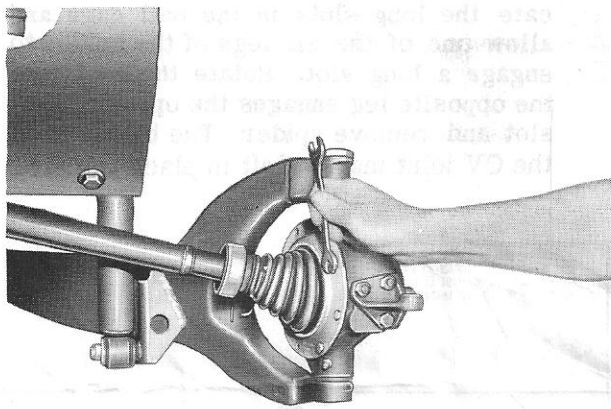

Figure 9.
- Remove (8) screws from inside face of hub assembly to release retainers (fig. 9).